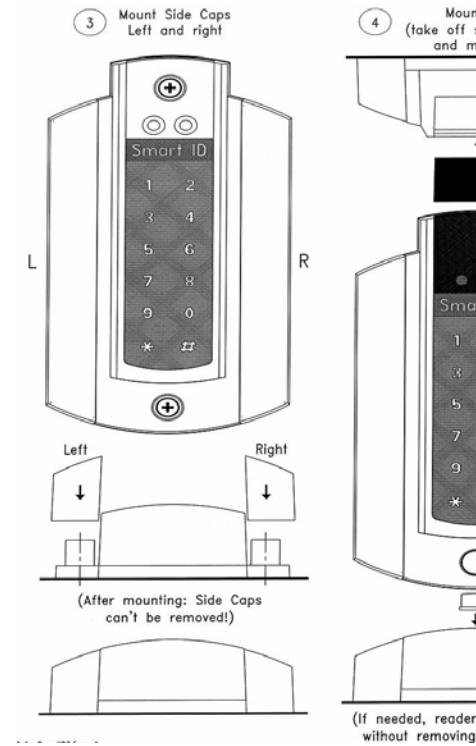

Figure 4 Mounting Plate Step 3 and 4
- Figure 4 Mounting Plate Step 3 and 4.....